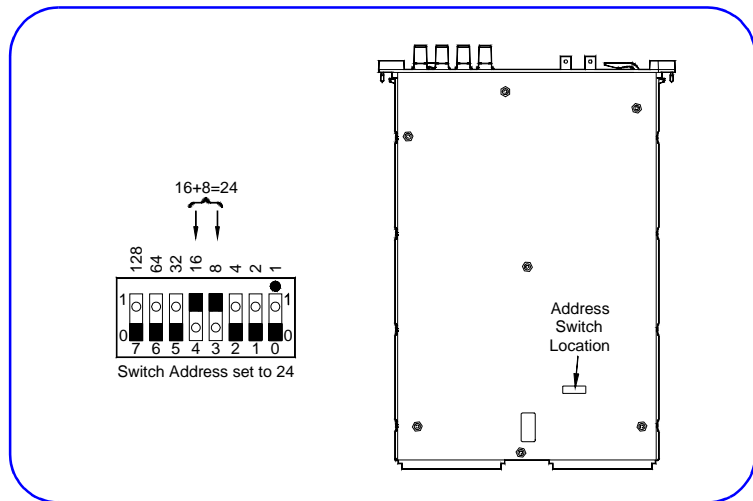

Figure 16. Example: HP E1411B Logical Address Switch
- The logical address for each VXI instrument is set by the Logical Address (LADDR) switch on the instrument. The logical address value is the sum of the values of the logical address switches set to the closed position (see Figure 16).
Figure 16 shows an HP E1411B multimeter with the Logical Address switch set to 24. Since switch 3 (logical value = 8) and switch 4 (logical value = 16) are both closed, the sum of the logical values (24) is the logical address for the HP E1411B. See the *HP E1326B/E1411B User's Guide* for details.